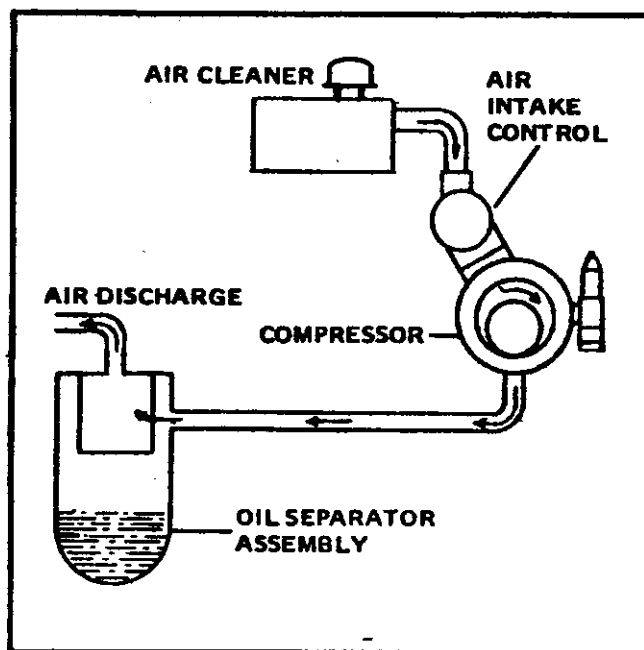

Figure 1-1. Air Cycle Schematic Diagram
a. AIR CYCLE. (See figure 1-1.) Free air is drawn into the stator through the air cleaner and intake control. The air enters through large ports in the end cover at a point where the vanes are well out of the rotor slots, thus filling the space